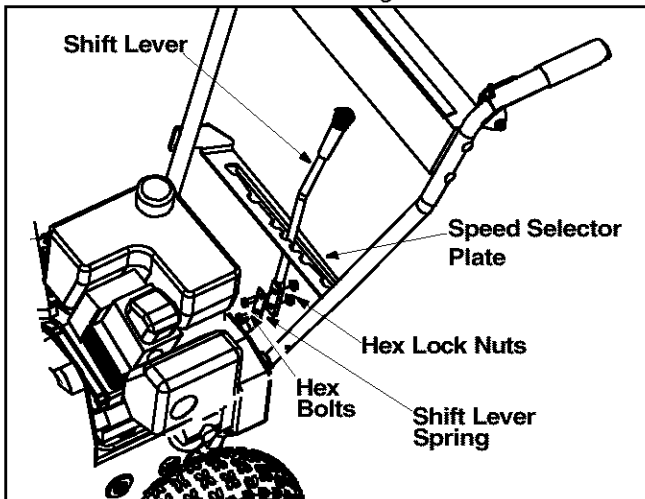

Figure 5
- Assemble the speed selector plate to the **outside** of the handles. Secure using two self-tapping screws on each side. See Figure 5.
- Insert the shift lever through slot in the speed selector plate. See Figure 5.